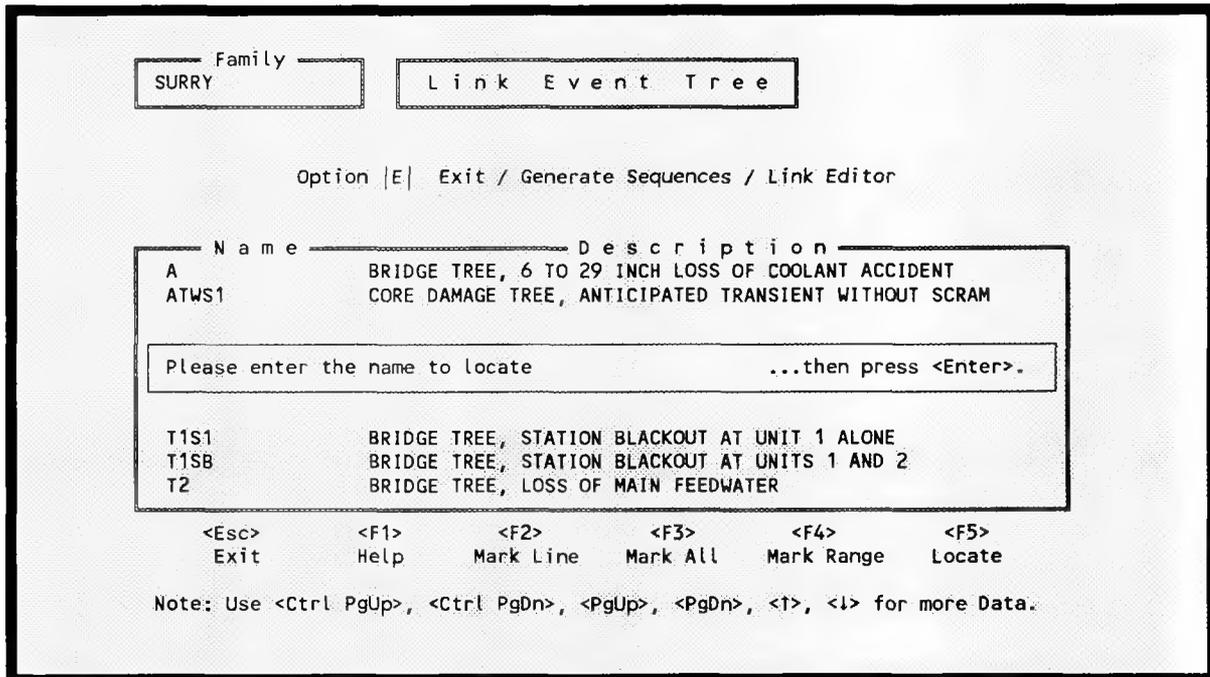

Figure 139. Locate a specific system using <F5>.
- <F5> Allows you to locate a specific file for further processing. When you invoke this function, Figure 139 will be displayed. Enter the file name to locate and press <Enter>. The specified file will be highlighted. If the file name does not exist, an error message will be displayed, and you will be returned to the previous screen.